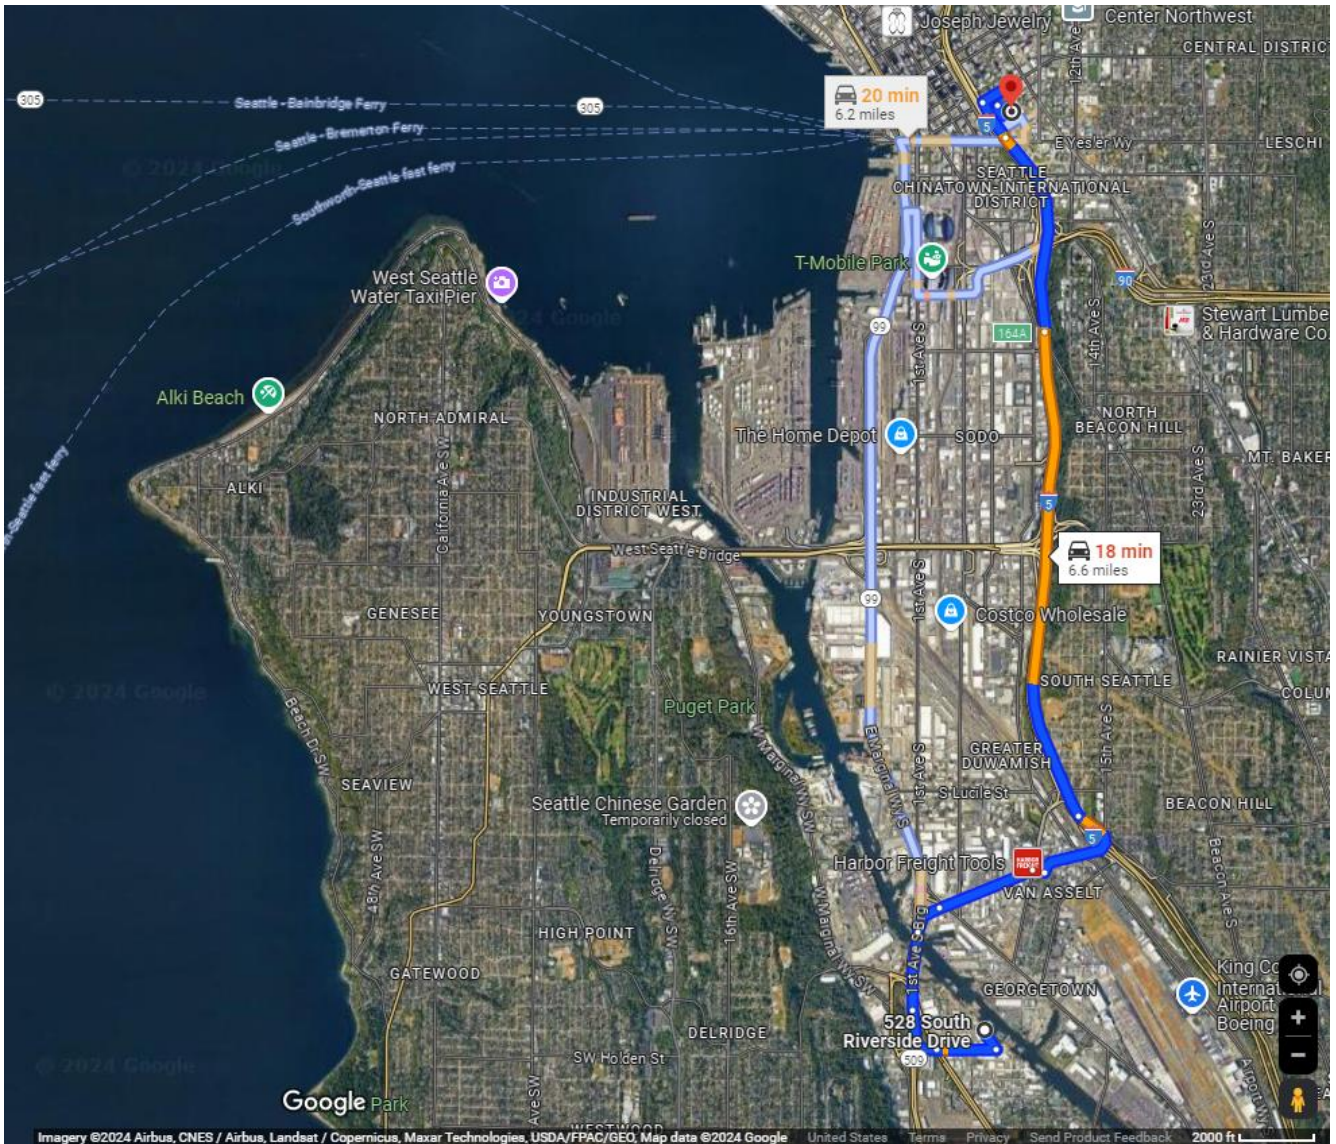

Figure 5. Route to nearest Hospital (Harborview Medical Center) from Pacific Pile and Marine's shop (Evacuation area for SMAs 14-18).
- The nearest Hospital is Harborview Medical Center. Routes to the Hospital from each evacuation dock shown in Figure 5 - Figure 7.